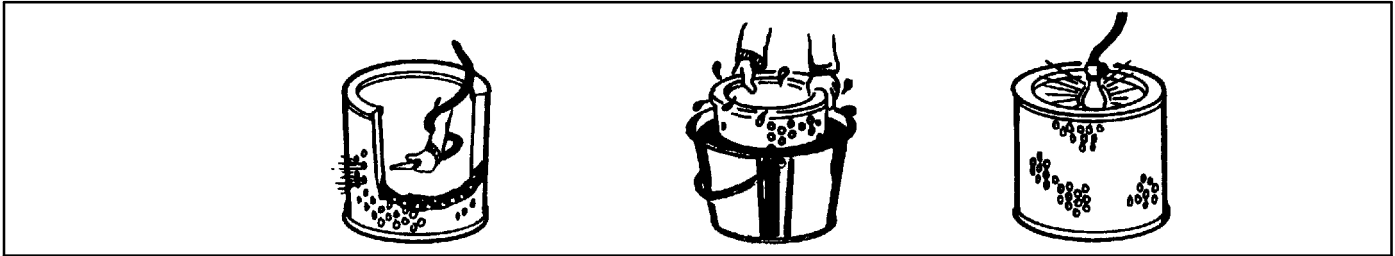

Figure 2. Element Cleaning Methods
3. Clean the filter element by directing by directing compressed air on the pleats inside the element (See Figure 2).
4. If the element does not appear to be sufficiently clean after cleaning with compressed air, wash the filter (see Figure 2).
5. Inspect the filter element for signs of deterioration or damage, by placing a bright light inside element and rotate element slowly. If any rupture, holes or damaged gaskets are discovered, replace (See Figure 2).